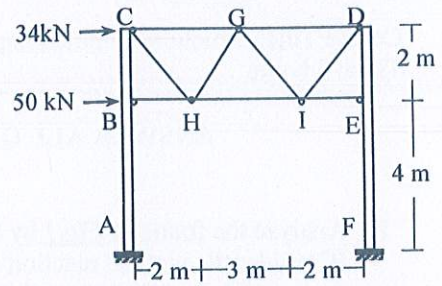

Fig.6
6. Analyze the mill bent shown in **Fig.6** by Portal Method to determine the reactions at support A and F. Also, determine the force in members GD and CH. [05]